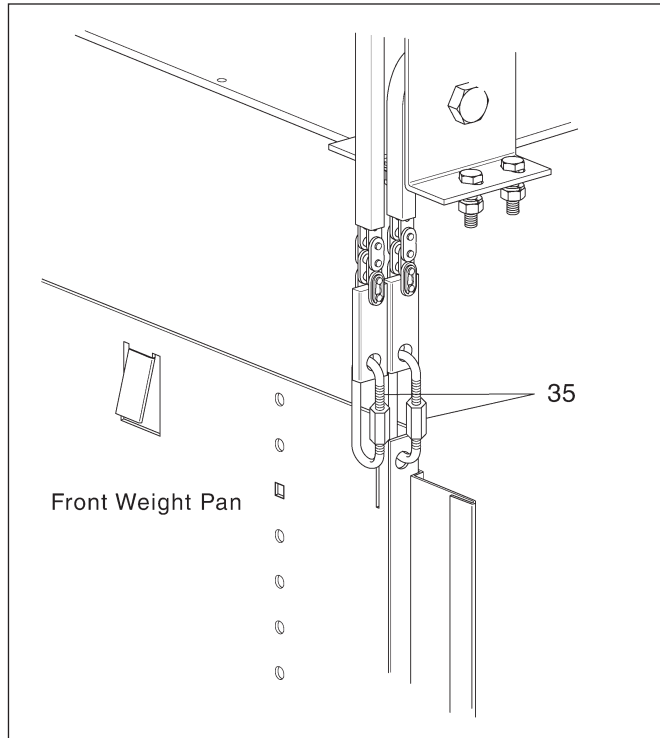
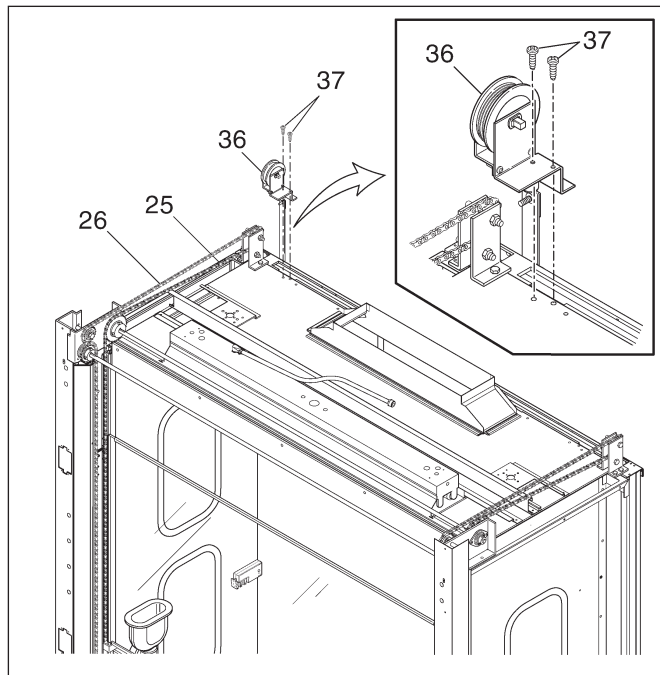

Figure 25
Figure 26
8. Open the threaded chain link (35) and insert it through the hole in the end of the weight pan. Close the chain link, securing the weight pan. Repeat this step for the opposite side.
**Refer to Figure 25**
10. Locate the autosash assembly (36) and attach it to the top of the unit using two No. 8 x 3/4" pan head sheet metal screws (37).
**Refer to Figure 26**